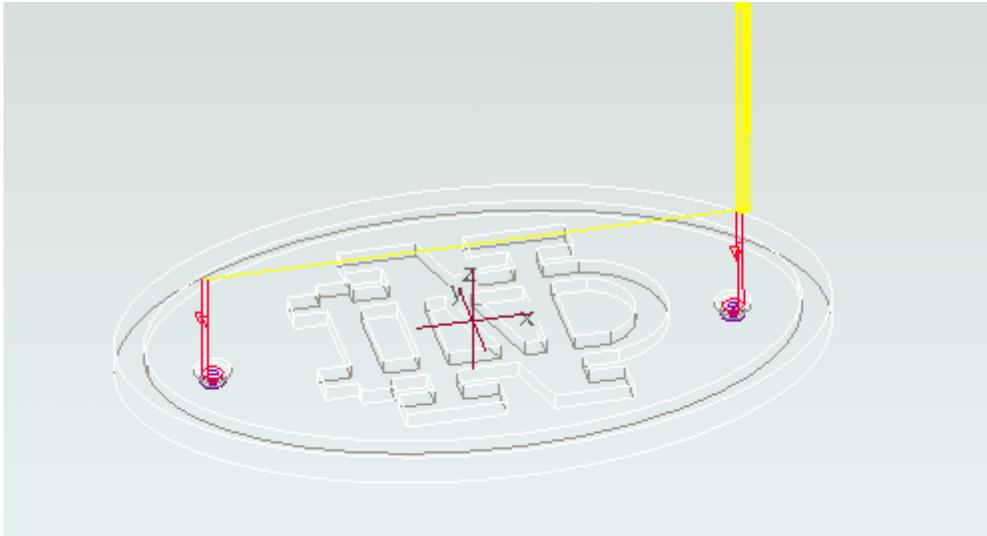

Figure 13: Toolpath for making holes using a profile sequence.
- Step 12:** Choose PLAYPATH >> SCREENPLAY and see that the tool profiles around the edges selected (Figure 13).